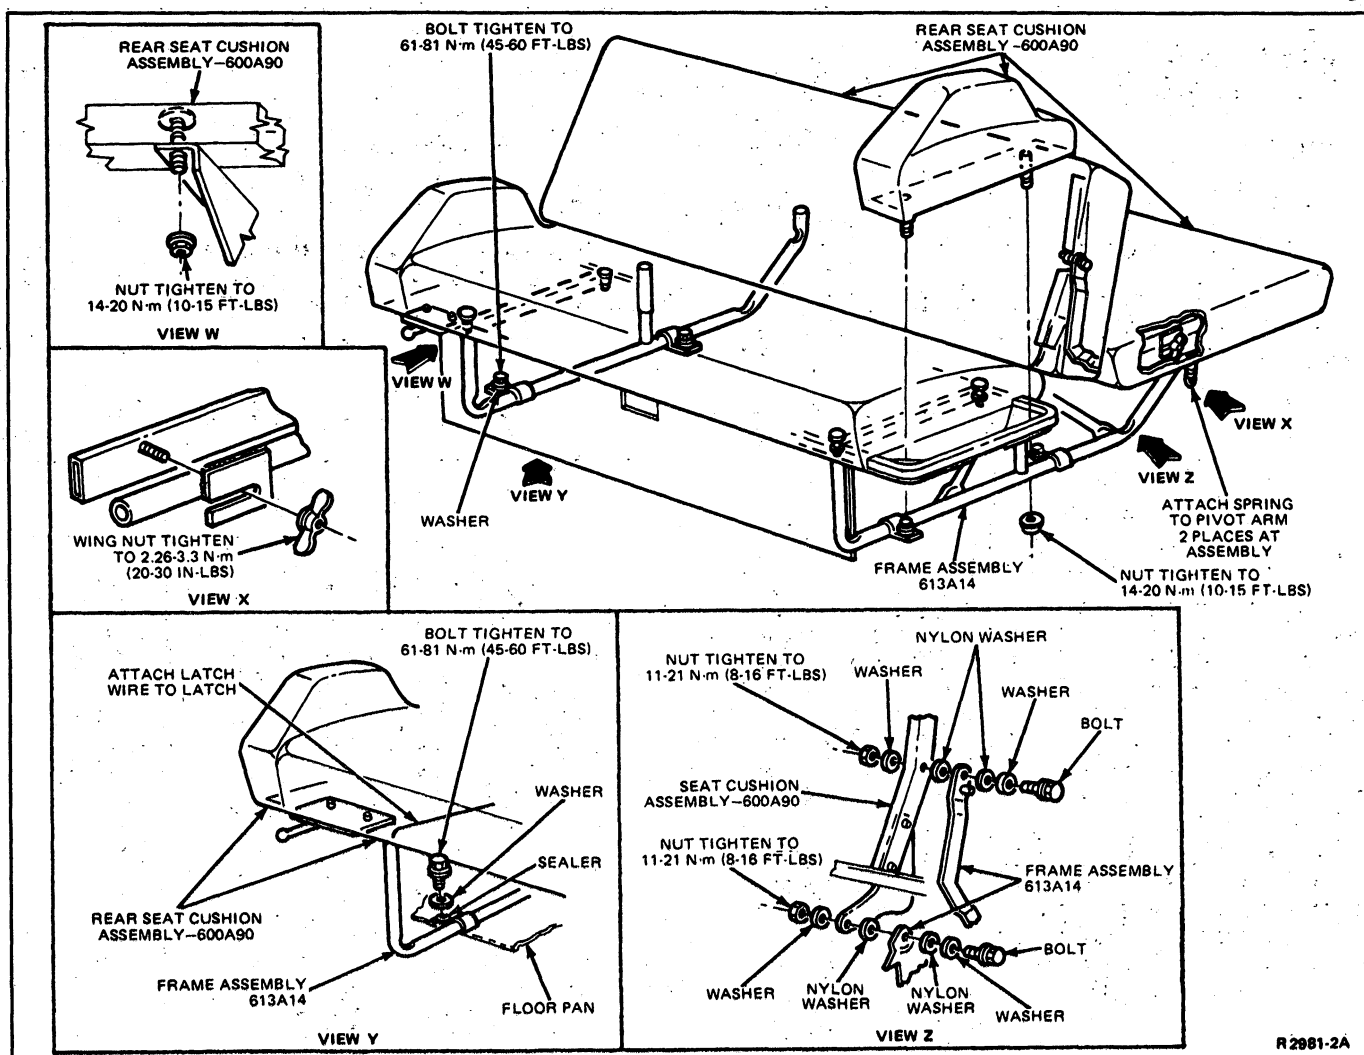

FIG. 6 Rear Seat/Bed—E-150—E-350
E-150 through E-350 models have an optional rear seat/bed (Fig. 6). A latch is provided to convert the seat to a bed.
If the seat/bed latch fails to release, turn the adjusting turnbuckle clockwise to shorten the rod travel (Fig. 6). If the seat fails to lock in the bed position, turn the adjusting turnbuckle counterclockwise to lengthen the rod travel.
If the seat/bed center latch does not return to the locked position after operation of seat/bed, move latch adjusting spring toward the center of the seat/bed (Fig. 6).
If the seat/bed operation becomes difficult, loosen four cushion attaching bolts and allow seat/bed to shift (Fig. 6). Tighten attaching nuts. Check operation effort. Tighten upper seat back attachment to 11-21 N·m (8-16 ft-lb).
1. Detach rear latch wire from the front latch (Fig. 6).
1. Position seat cushion to frame assembly (Fig. 6).
2. Remove four bolts and nuts attaching the seat back to the frame assembly (Fig. 6).
1. Position seat back to the frame assembly (Fig. 6).
1. Loosen wing nuts on each side of rear deck (Fig. 6).
1. Slide rear deck into place on frame assembly (Fig. 6).
3. Remove four bolts attaching seat/bed to floor (Fig. 6).